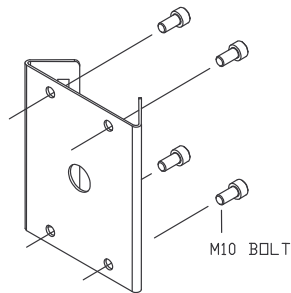

FIG.25
1. Fix the wanted bracket on the pole mount bracket with 4 ea of M10 BOLT before you install the pole mount bracket. (FIG.25)